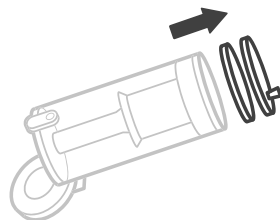

Figure 3.4
2. Remove the two pre-motor filters (sponge and knitted cotton). **[Figure 3.4]**